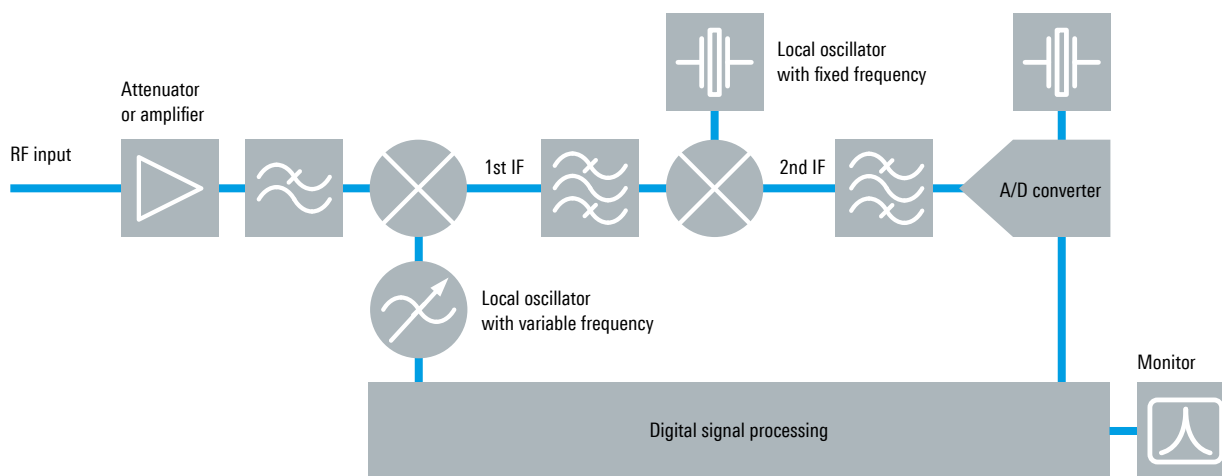

Fig. 2: Simplified block diagram of a signal and spectrum analyzer. Not shown: differing signal paths for the various frequency ranges.
In order to digitally demodulate signals, the amplitude and phase of the signal must be known. Spectrum analyzers are the instrument of choice for this task. Fig. 2 shows a simplified block diagram of a signal and spectrum analyzer. It receives the broadband signal and converts it to the first intermediate frequency (IF). The signal is then downconverted to a frequency of less than half the sampling rate of the analog-to-digital converter (ADC) and digitized. An FPGA or ASIC digitally processes the signals from the ADC for further analysis.